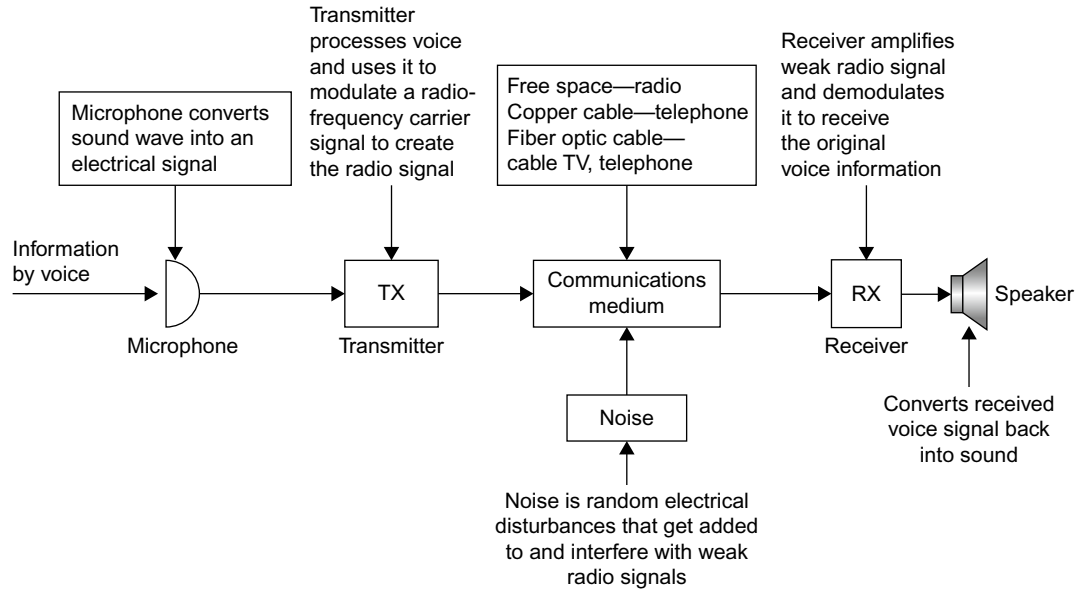

FIGURE 7.1 Model of electronic communications system.
Radio is an electronic communications system. All electronic communications systems have the basic form shown in Figure 7.1, whether it is a wired or wireless system. The information to be communicated, usually voice, is first converted into an electrical signal by a microphone. That signal is then processed by the circuits in a transmitter (TX), and then sent via a communications medium to a receiver (RX) that processes the signal and converts it back into voice by a speaker or headphones. In the telephone system, the communications medium is a cable made of copper wire. In a cable TV system, the medium is a coaxial cable, twisted-pair cable, or fiber optic cable. But in radio, the communications channel is free space. The radio signal travels from one place to another almost instantaneously and it passes right through